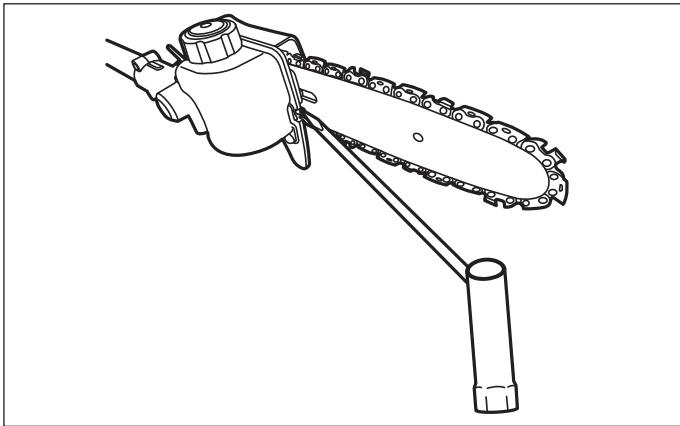

Fig. 8a
- b). Turn the tension screw (D12) clockwise until the chain "rivet heads" are just touching the bottom edge of the guide bar (D7). (See Fig. 8a)